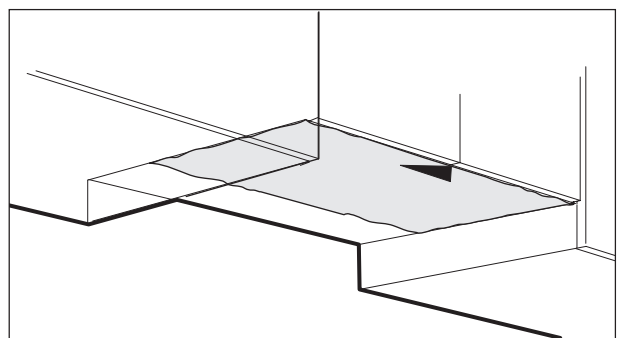

Fig. 4
- Drill holes on the bottom of the cupboard as shown in the supplied drilling diagram (Fig. 4), do not consider the thickness of the front panel of the cupboard.